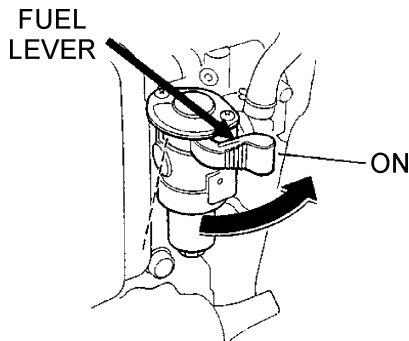

Figure 20. Engine Fuel Valve Lever (ON Position)
1. Place the engine ***fuel valve lever*** (Figure 20) to the "ON" position.